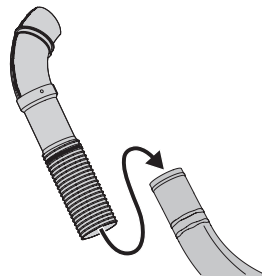

Figure 34
- Install the upper chute tube onto the discharge chute elbow as shown in Figure 34.